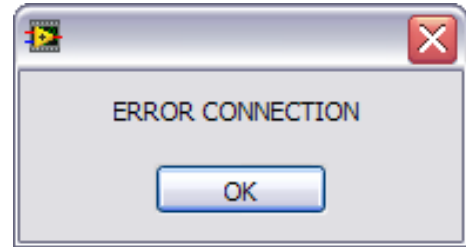

Figure 3. Error Message
3. If the SDP board is not connected to the evaluation boards a message box appears as shown in Figure 3. Check the connection between the SDP and EVAL-AD5629EBZ boards and run the program again.